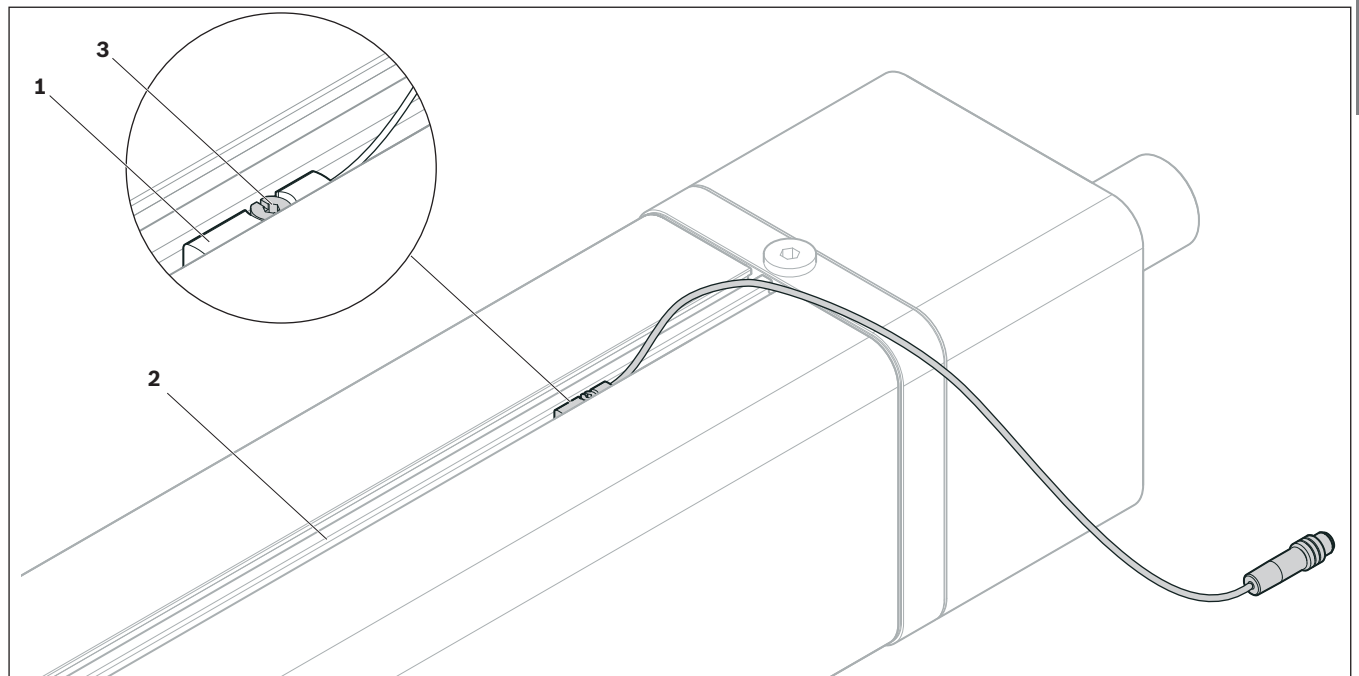

Fig. 29: Mounting the switches
1. Insert the switches (magnetic field sensors) **(1)** into the T-slot of the housing **(2)** in such a way that the clamping screw **(3)** points outwards ➡ Fig. 29.
1. Fix in place by turning the clamping screw **(1)** ➡ Fig. 29 on page 29. Tighten the screw by hand and check the switch is secure.